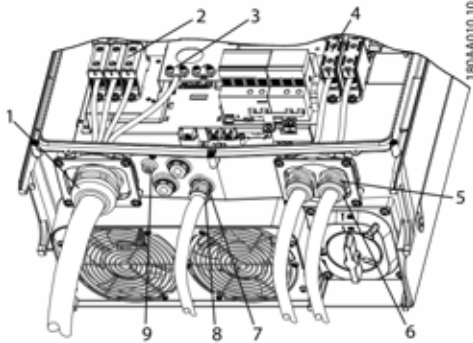

Figure 5.2 Overview of Inverter with Torque Indications
If the blind plugs are removed (see (7) in figure 5.2), use the following fittings: 3, 3S, 4, 4X, 6, 6P.